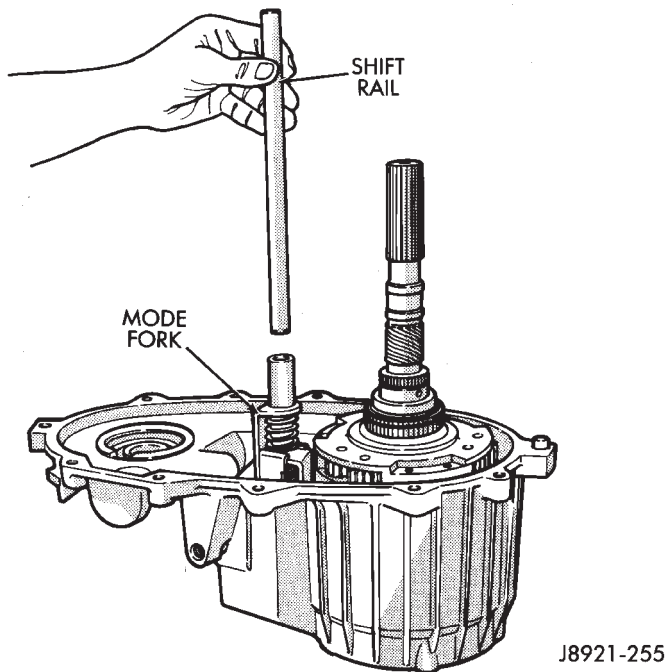

Fig. 70 Installing Shift Rail
(42) Rotate mode fork pin into shift sector slot.
(43) Install shift rail (Fig. 70). Be sure rail is seated in both shift forks.